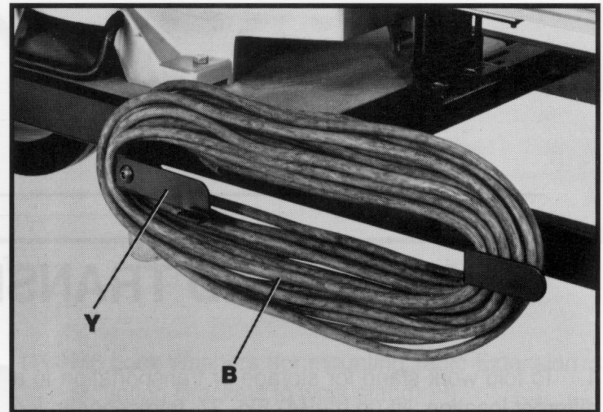

Fig. 22
20. For fast removal of the extension cord, simply rotate arm (Y) Fig. 22, of left hand cord wrap to the right as shown. This allows the extension cord (B) to be removed all at once, eliminating the need to unravel it.